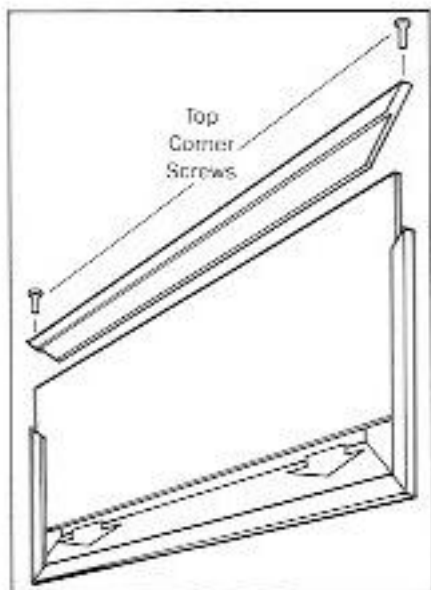
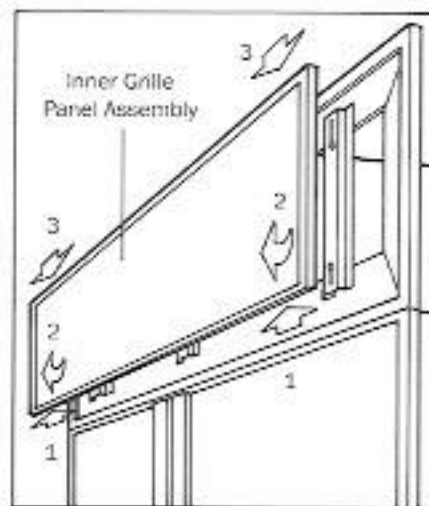
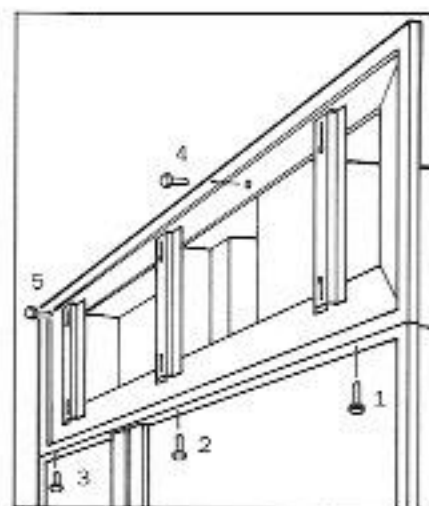

Figure 28
Figure 9
Figure 10
Remove the inner grille panel assembly (refer to Figure 9 on page 14) and remove the top two corner screws and pull away the top frame. See Figure 28.
Lay the remaining panel assembly on a flat surface and insert the panel insert into position in the grille frame as shown in Figure 28.
Reattach the top frame and install the inner grille panel assembly back onto the unit. See Figure 9 on page 14.
To remove Model 590 grille assembly, the inner grille panels assembly must first be removed. Lift up (1), then pull out at the bottom (2), then pull top section down and out of the top key slot (3) as in Figure 9. Next, remove the five mounting screws that hold the outer grille panel assembly to the top compartment. See Figure 10.